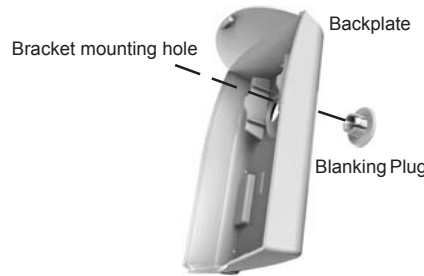

Figure 3. Prep for Wall Mounting (No Bracket)
2. MOUNTING - To mount directly onto a wall WITHOUT the swivel bracket, start by inserting the supplied blanking plug into bracket mounting hole. This is very important! See Figure 3. Next, locate the 9 dimple marks on the inside of the backplate. Choose 2 (or more) of these for use as the screw mounting holes. Drill out the necessary holes using 1/8" bit. To prevent air or contaminants from getting into the sensor, DO NOT leave any exposed or unused holes!